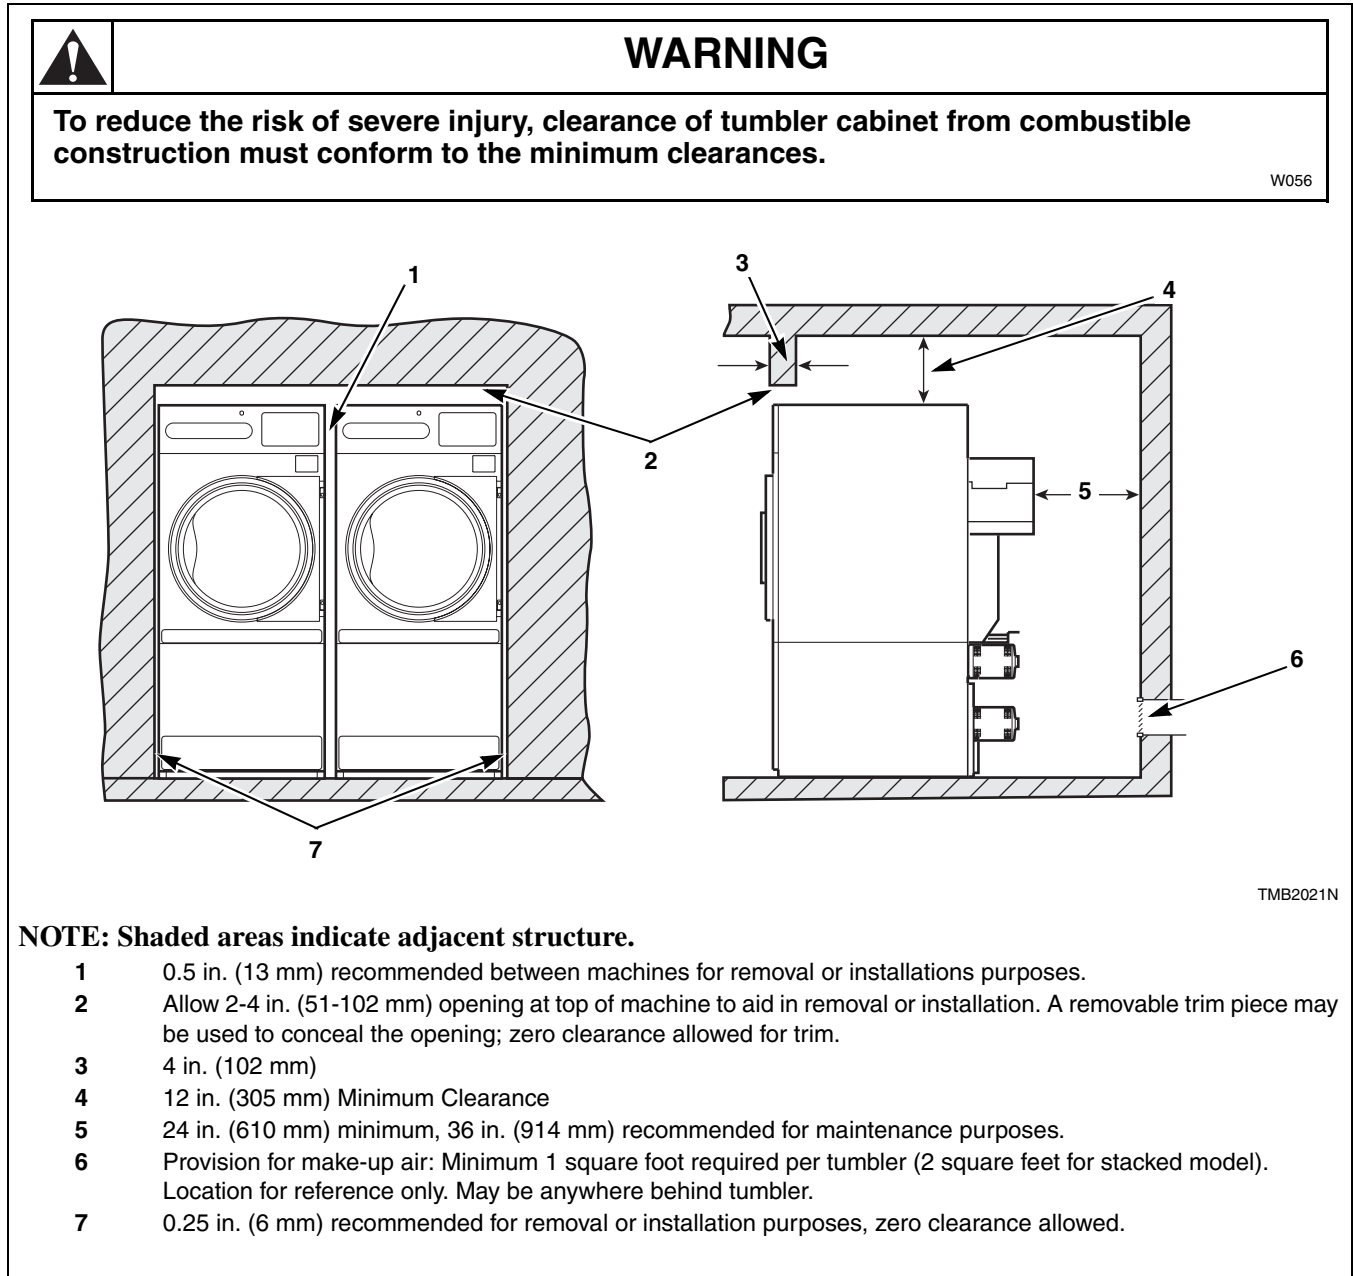

Figure 1
A typical tumbler enclosure is shown in *Figure 1*. Note the minimum and maximum dimensions. Local codes and ordinances must be complied with.
**IMPORTANT: Install tumblers with sufficient clearance for servicing and operation. Refer to *Figure 1*.**